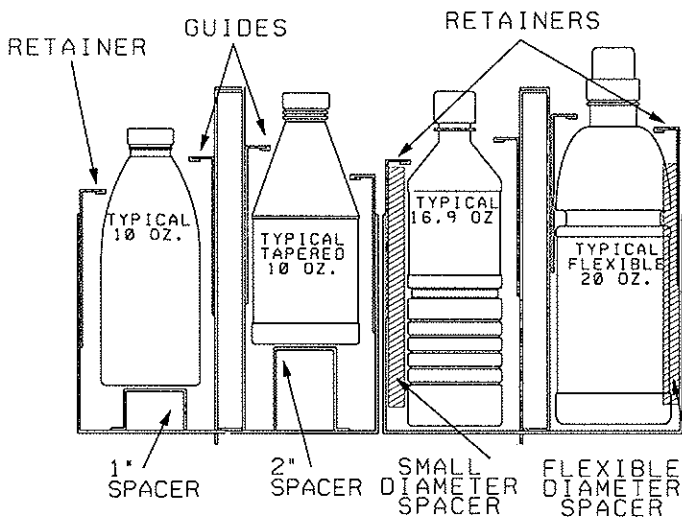

Figure 10
Retainers and Guides confine the product within the compartment. See **Figures 10** and **11**. They are adjustable forward or backwards in one (1) inch spacing.
Figure 10 shows the side retainers and guides in positions when adjusted for different size containers. Place the shoulder rivets in the proper keyhole slot and pull downward to secure.